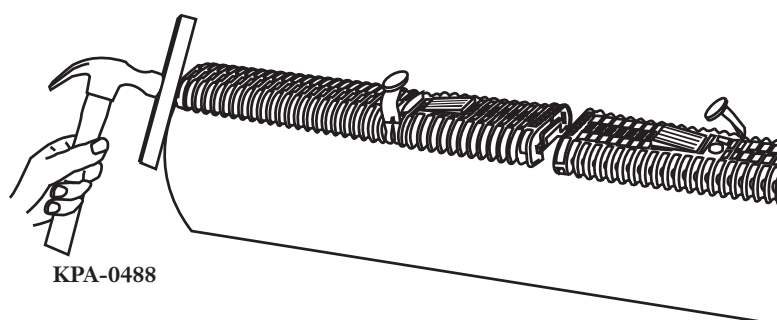

Figure 46 — Hammer Clamping Bars
**IMPORTANT:** *DO NOT hammer directly on the clamping bars; this will damage them. Place a block of wood over the clamping bars and tap lightly with a hammer (Figure 46). When the clamping bars are completely closed, a 0.28-inch gap will remain between the bars and the clamping bar locks will align with the holes in the cover.*